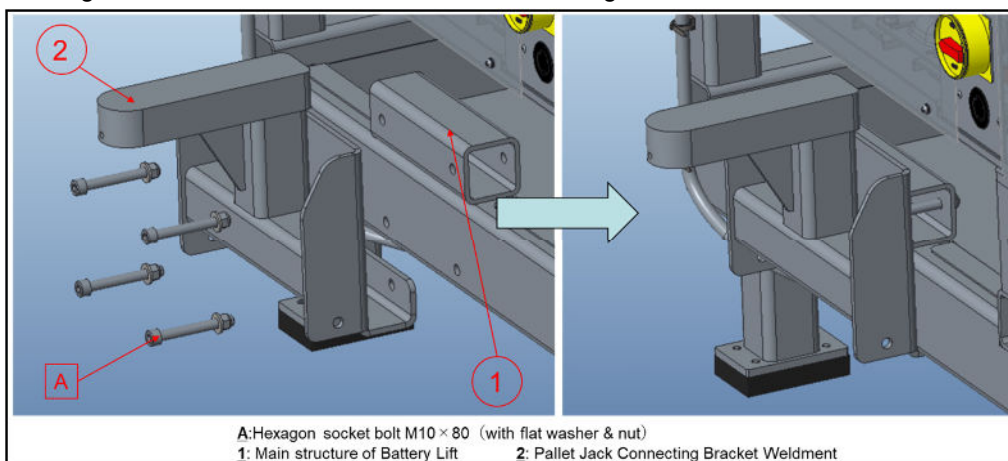

Fig.7.1.4 Bracket Weldment Installation
- a) As shown in Figure 7.1.4, assemble Part 2 with Part 1 through bolts and nuts A.